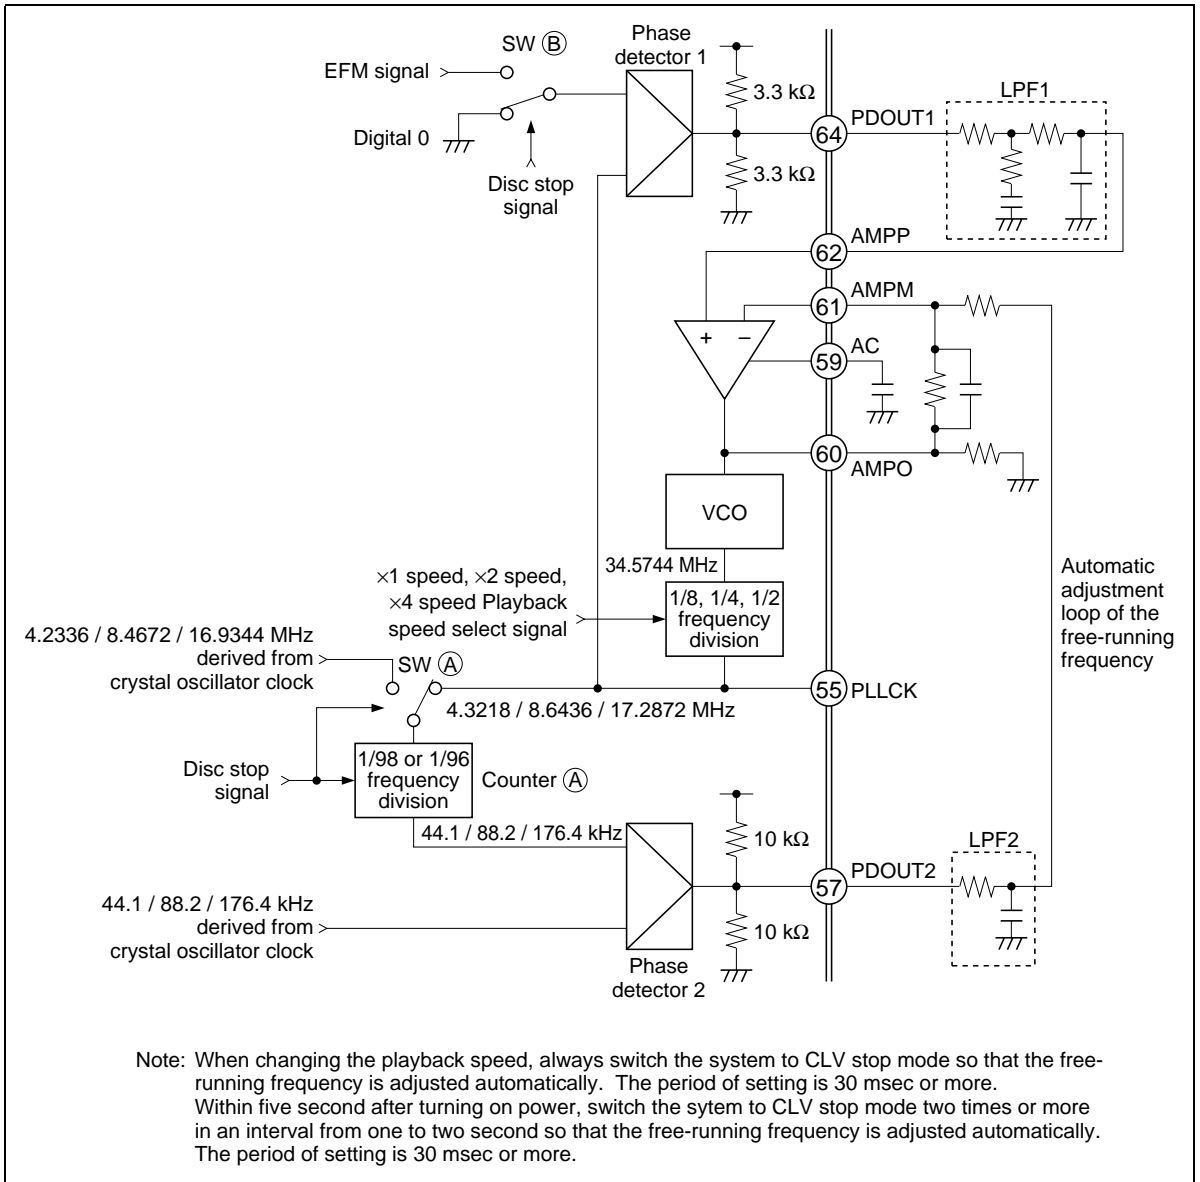

Figure 2
- b. When the disc stop signal is turned on, counter (A) in figure 2 becomes a divide-by-98 counter, switch (A) is connected to the output from the VCO, and switch (B) is connected to digital 0.
- d. When the disc is rotating and reproduction starts, switch (B) is connected to receive the EFM signal. The phase detector PDOUT1 in figure 2 compares the phases of the EFM signal, which was converted to binary by the EFM comparator, and the bit clock and outputs phase comparison information from the PDOUT1 pin.